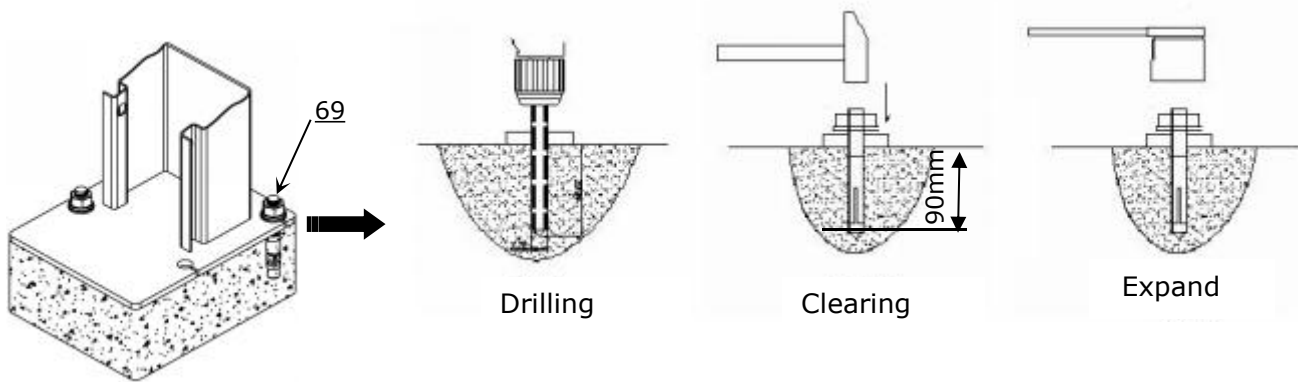

Fig. 39
2. Using the prescribed rotary hammer drill, and drill all the anchor holes and install the anchor bolts. Do not tighten the anchor bolts (See Fig. 39).